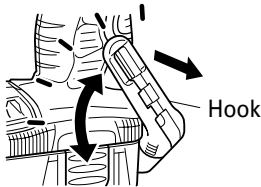

Fig. 14
(1) Operating the hook
(a) Pull out the hook toward you in the direction of arrow (A) and turn in the direction of arrow (B) (Fig. 14).